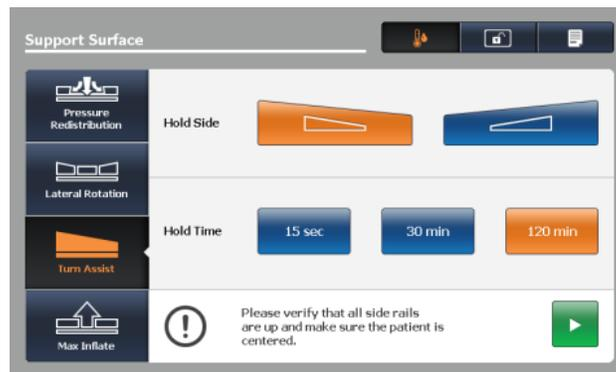

Figure 61: Turn assist screen
3. Tap **Turn Assist** (Figure 61 on page 68).